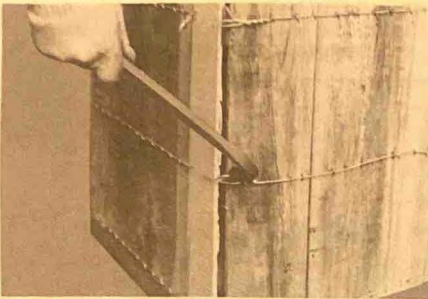

Fig. 2
1. The MX100A (MX125A, MX175A) is put in a wooden box crate. To unpack, remove the nails at the upper panel, and remove the upper panel. Then unfasten the wire lock of the side panel as shown in Fig. 2, and then remove the nails at the side panel and remove the side panel.